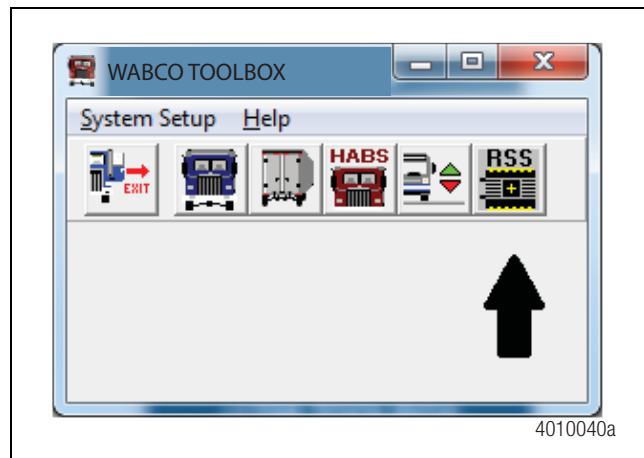

Figure 71
1. From the main screen of TOOLBOX™ Software, click on the RSSplus™ icon. Figure 71.